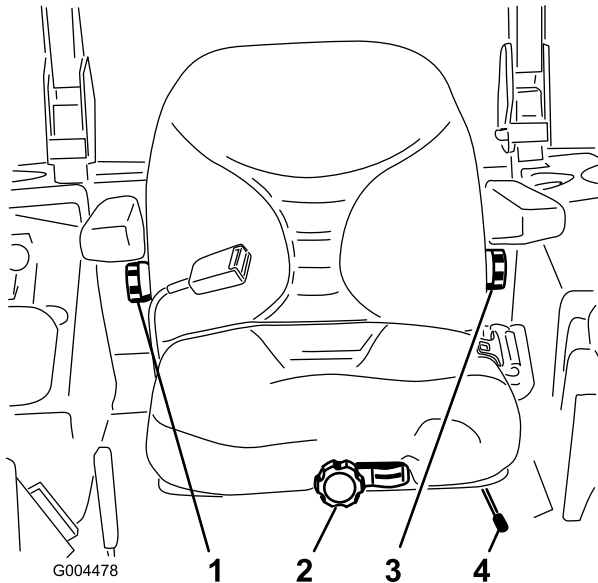

Figure 32
1. To adjust, move the lever sideways to unlock the seat (Figure 32).
Without sitting on the seat, turn the knob in front either direction to provide the best comfort (Figure 32).
To adjust it, turn the knob, under the right-side arm rest, in either direction to provide the best comfort (Figure 32).
To adjust it, turn the knob, under the left-side arm rest, in either direction to provide the best comfort (Figure 32).